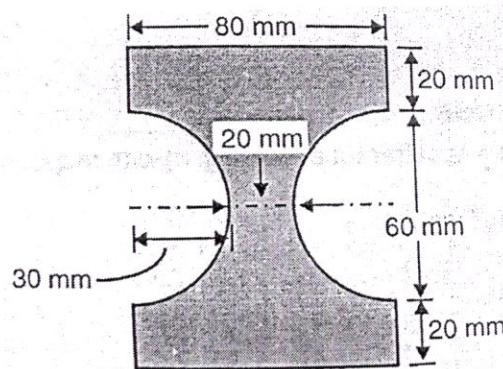

Fig 3
- c) Draw shear stress distribution diagram for the beam shown in fig. 3, if the shear force acting on the beam is 60 kN. 09 L₃ CO5